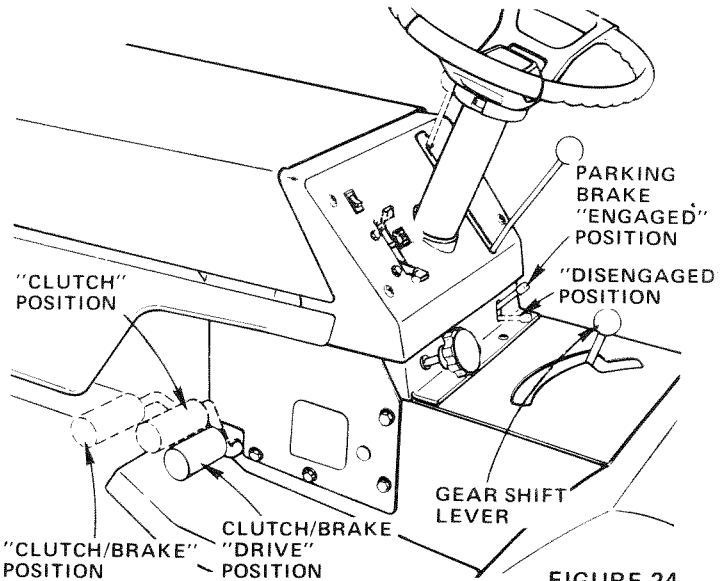

FIGURE 24
3. Move Gear Shift Lever to "1ST" Gear (Fig. 24).
NOTE: ALWAYS OPERATE ENGINE AT FULL THROTTLE WHEN MOWING TO ASSURE BETTER MOWING PERFORMANCE, LONG ENGINE LIFE AND PROPER DISCHARGE OF CUT MATERIAL. REGULATE GROUND SPEED BY SELECTING A LOW ENOUGH GEAR (FIG. 24) TO GIVE THE MOWER CUTTING PERFORMANCE PLUS QUALITY OF CUT DESIRED.
3. Place Parking Brake in "ENGAGED" position. Raise Parking Brake Lever and hold in "ENGAGED" position (Fig. 24). Release Clutch-Brake Pedal.
For pushing or towing your tractor, place Gear Shift Lever in "NEUTRAL" position (Fig. 24). Push Clutch-Brake Pedal down firmly to "DISENGAGE" Parking Brake (Fig. 24). NOTE: DO NOT TOW YOUR TRACTOR FASTER THAN
3. Connect the other end of the cable to LH Side Panel Bolt (Fig. 24). NOTE: KEEP AWAY FROM GAS TANK AND BATTERY.
- a. L.H. Side Panel Bolt (Fig. 24).